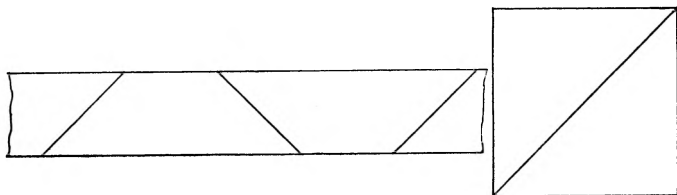

Fig. 22
24. Cut one cloth back and four corners to the size of the paper patterns. The corners may be cut from squares or from strips as shown in fig. 22.